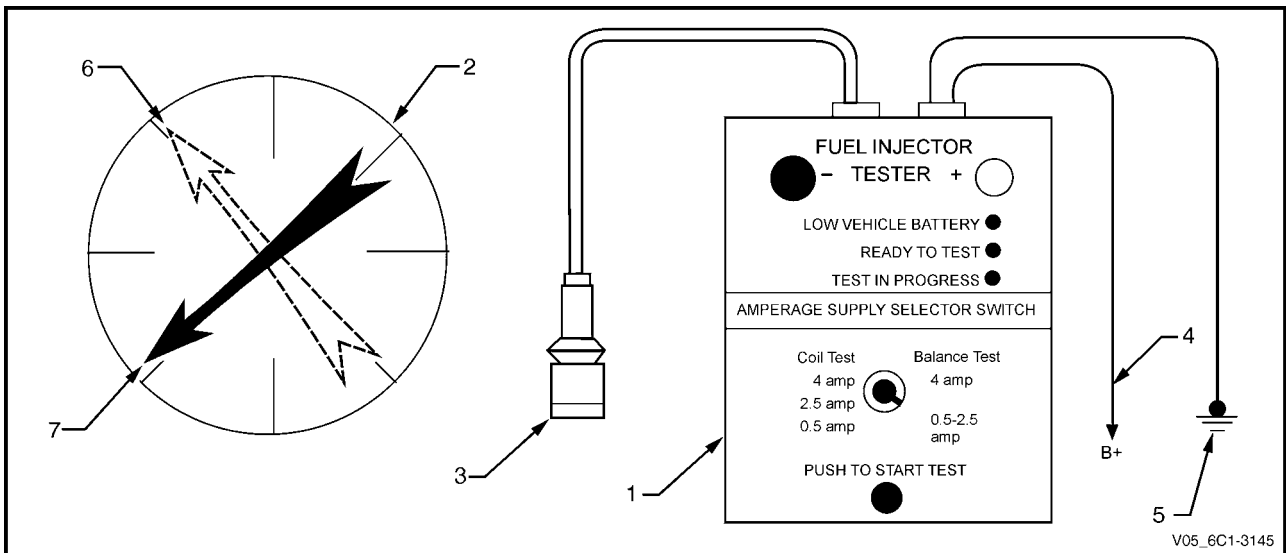

Figure 6C1-2 – 20
- 7 Connect Tool No. J 39021 Fuel Injector Tester (1), and Tool No. J 44602 (3) to the fuel injector connector. Refer to Figure 6C1-2 – 20.